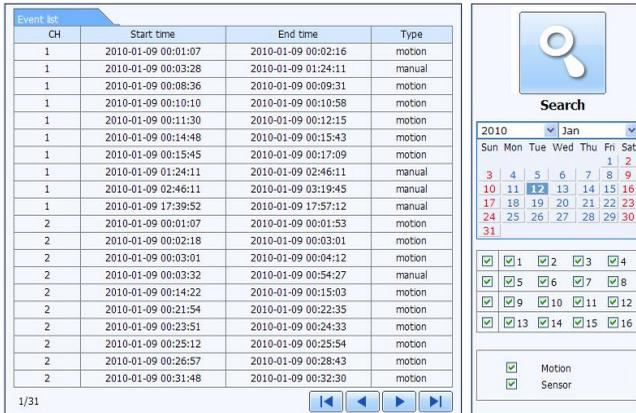

Fig 7-6 Event Search Interface
Step 1: Enter into Search→Event Search interface. Refer to Fig 7-6: